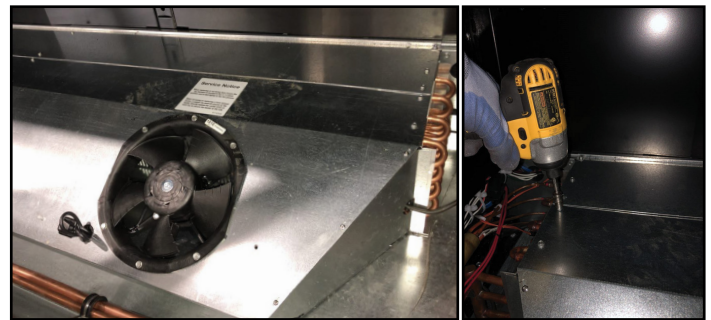

Fig. 15: Fan plenum and removing coil cover
- Lift the fan plenum to gain access to the coil for cleaning and maintenance. Remove screws where plenum flange sits on top front of coil. Pull plenum forward and rotate up (Fig. 15).